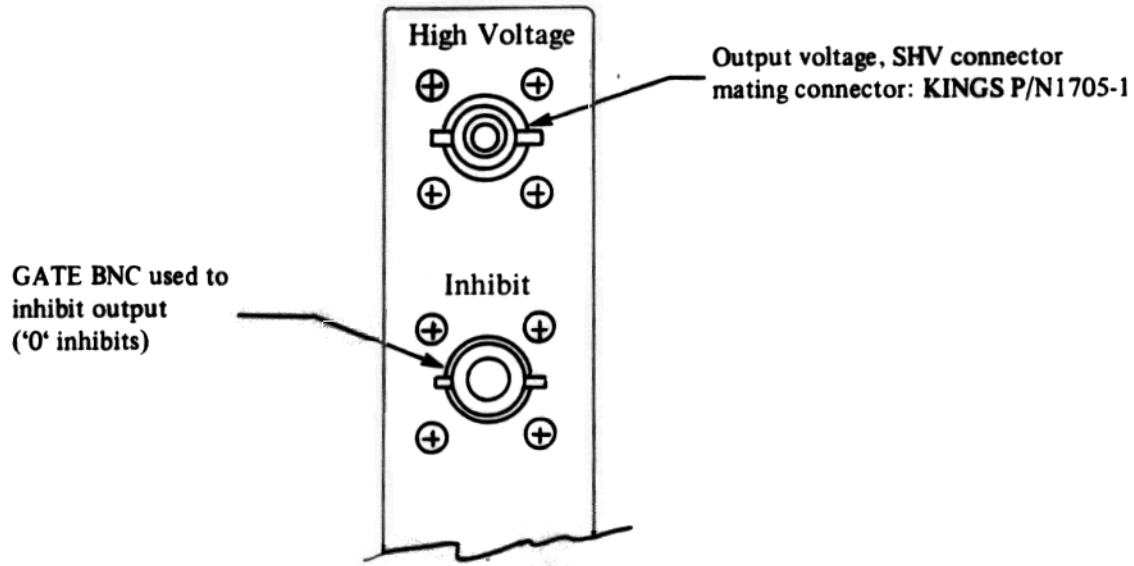

Figure 3-2 Rear Panel Connectors
3.3 REAR PANEL (Refer to Figure 3-2)